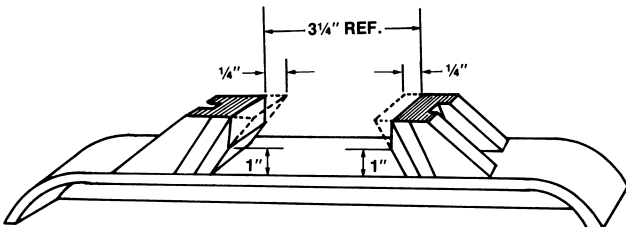

Figure 5
3. Chamfer the inside of the remaining portion of the bracket cap, as shown in *Figure 5*.